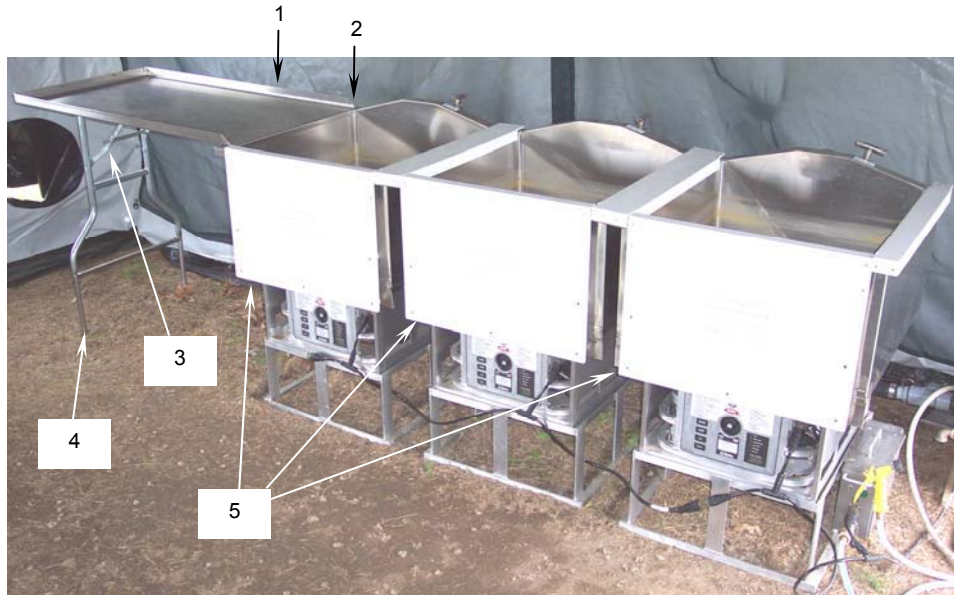

Figure 31. Disassembling the Drain Table.
- a. Detach the drain table (Figure 31, Item 1) from the rim (Figure 31, Item 2) of the sink assembly.
- b. Turn the drain table upside down and push-in the linkage (**Figure 31, Item 3**) from its fully extended position. Fold the table legs (**Figure 31, Item 4**).
- c. Remove the sink front heat shields (**Figure 31, Item 5**) from the front of the sinks.